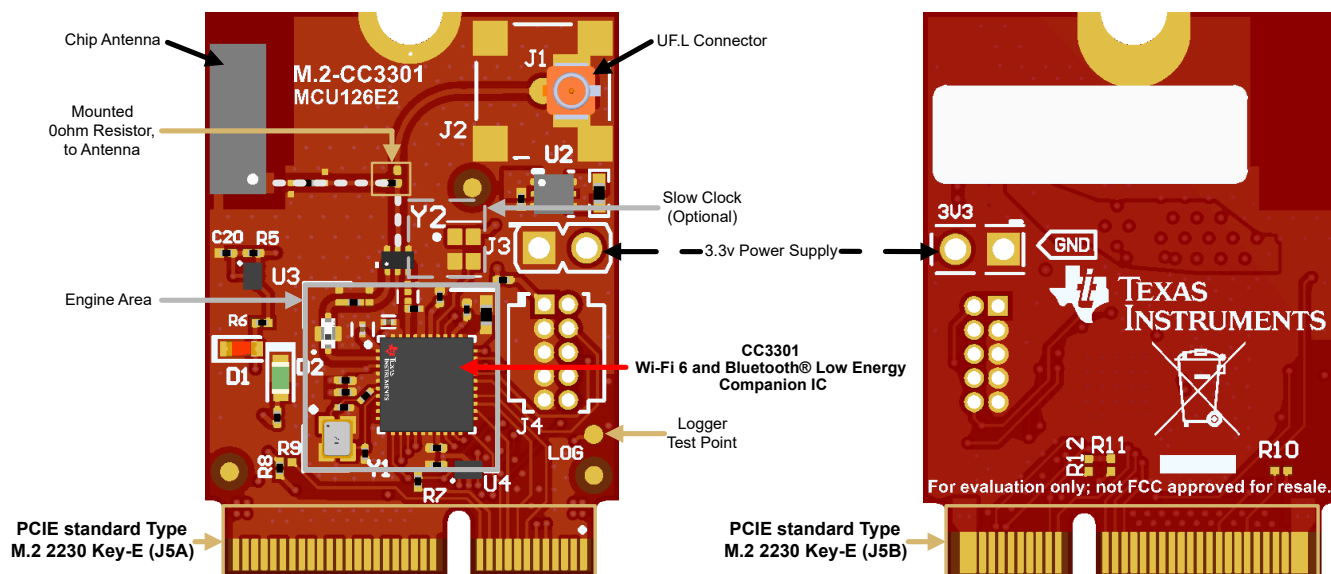
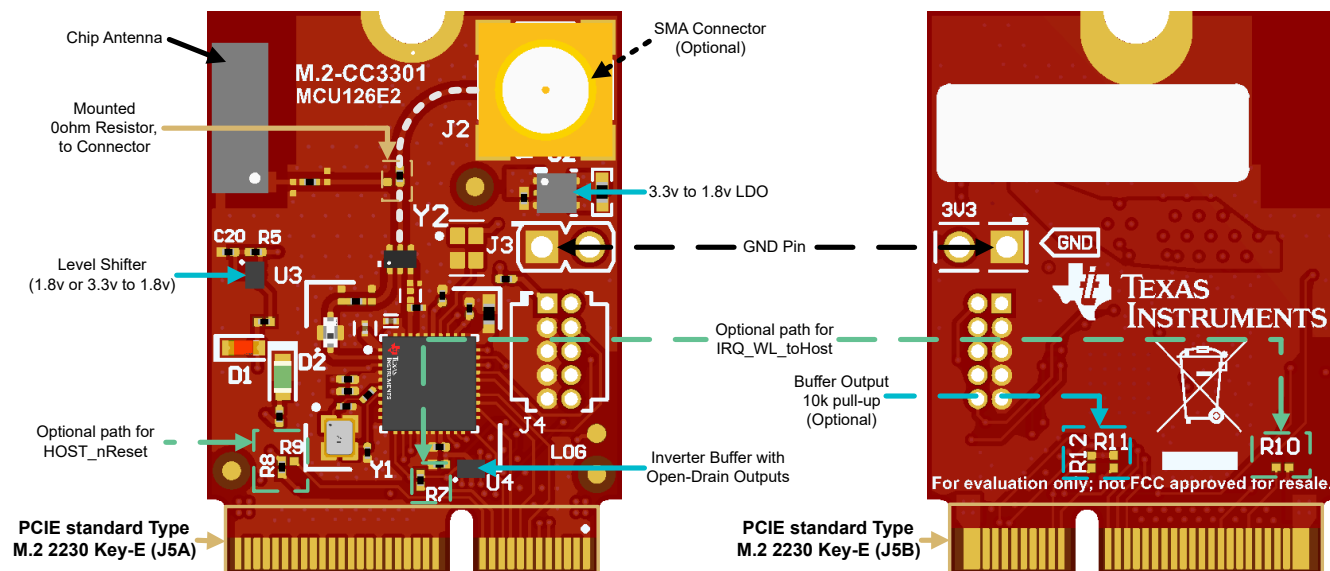

Figure 2-1. M2-CC3301 Features
Figure 2-2. M2-CC3301 More Features
- The mounted 0 Ohm resistor can be swapped to a different position to do conducted testing with the connector on board (J1/J2), the default configuration allows use of the onboard chip antenna (refer to Figure 2-1). Alternatively there is footprint for an SMA connector (J2) onboard to replace the onboard U.F.L connector (J1) for performing conducted testing measurements with a compatible coaxial cable (refer to Figure 2-2).